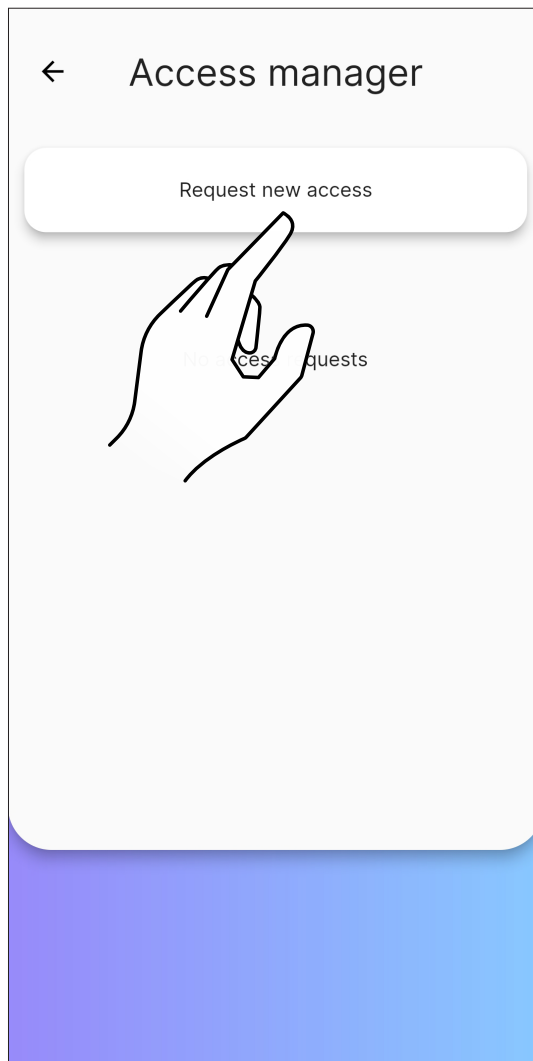

Fig. 28
- on the “Access manager” screen, click on “Request new access” (Fig. 28)